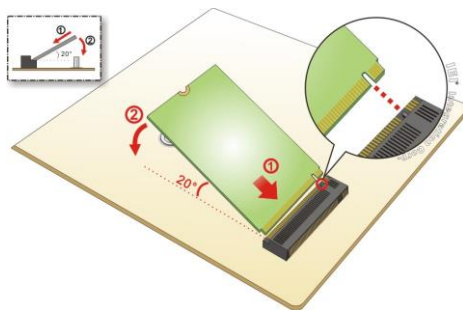

Figure 3-6: Inserting the WLAN Module
Step3. Line up the notch on the WLAN module with the notch on the slot. Slide the WLAN module into the slot at an angle of about 20° (Figure 3-6).